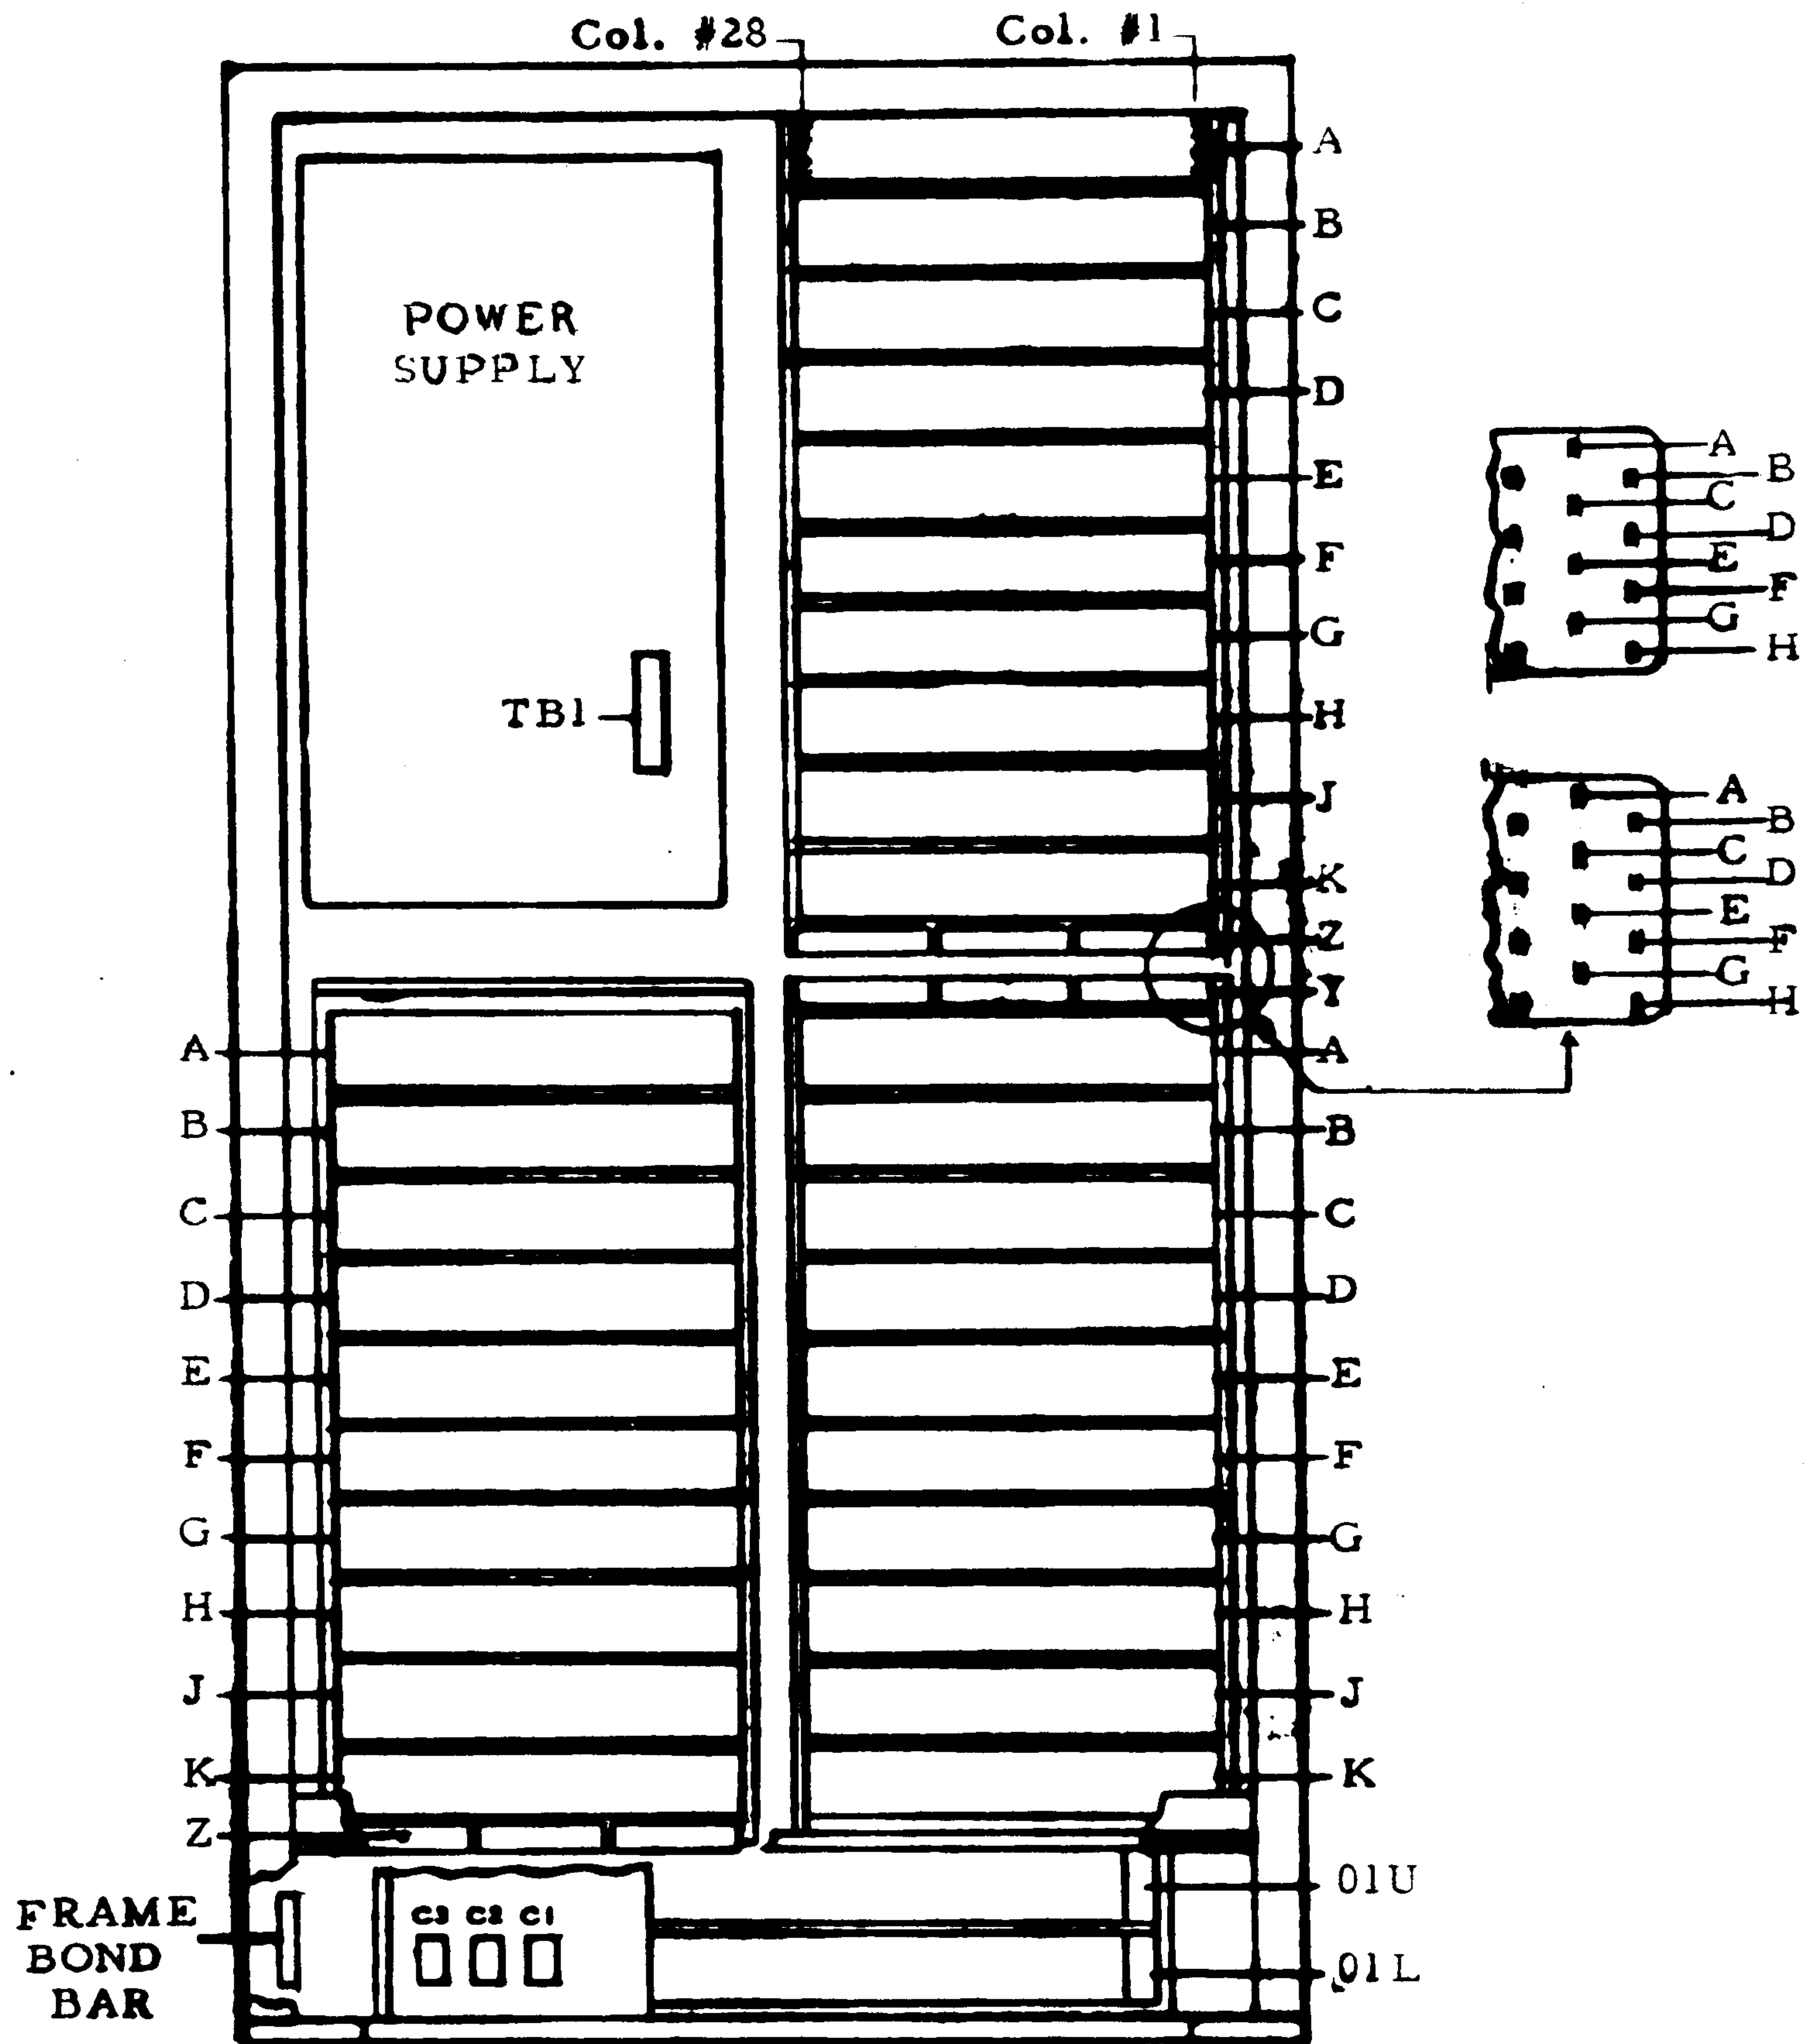

FIGURE 3-2 COMPONENT LOCATIONS -7631 (FRONT)
Figures 3-2 and 3-3 show 7631 component locations. Figure 3-4 illustrates 7631 tailgate configurations for the different models, and Figure 3-5 is a composite cable diagram of the 7631-1301/7320 features.
- A. EPO (Emergency Power Off) cables are plugged in C-1 connector located on the left end of the tailgate. See Figure 3-2.